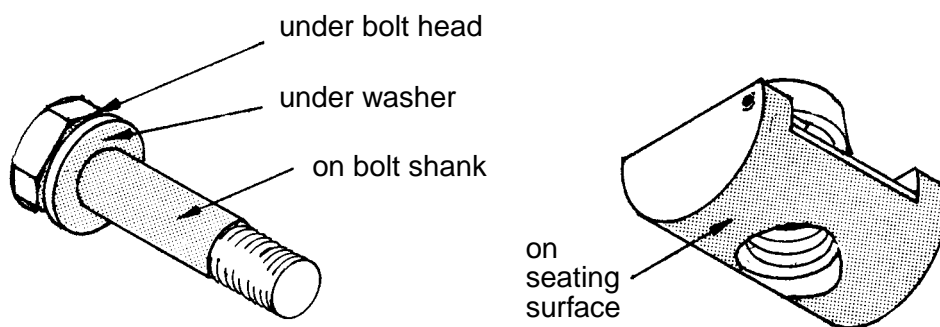

Figure 2 - Application of F13 Type 2 Compound to Bolt and Barrel Nut
- 5.3.1 Unless the engineering drawing specifies potting of the barrel nut hole, apply F13 Type 2 compound to the bolt and the seating surface of the barrel nut according to PPS 16.01 (see Figure 2). Do not apply F13 Type 2 compound to threads of the bolts or areas of the barrel nut other than the seating surface.